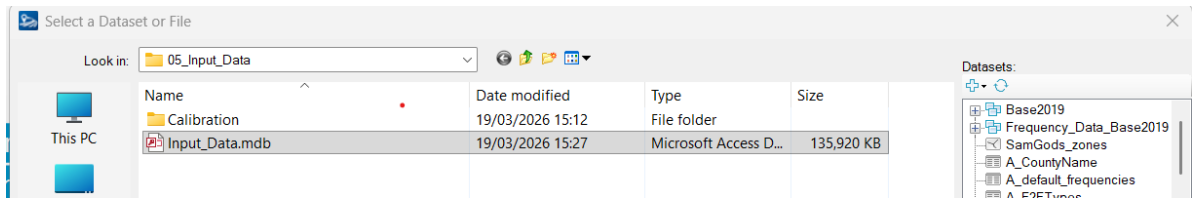

Figure 100 SamGods_zones layer in Input_data.mdb
- 4) Clicking on "Add data>Geodatabase Data", see Figure 100, add {CATALOG_KEY}\Input_Data.mdb\Samgods_zones background layer. This layer is for visual reference only.